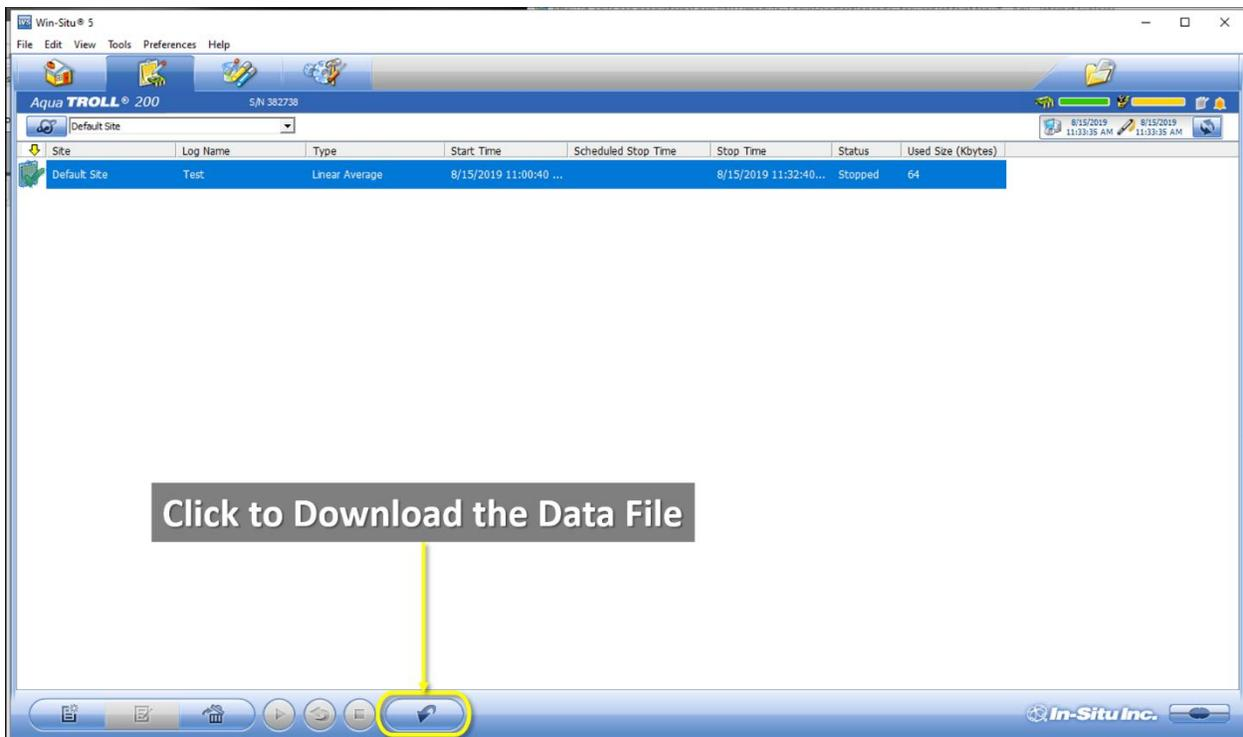

Figure 25. Select the Log file and then the Downward Pointed Arrow to Download the Log File Data
1. To download data from a TROLL to a NEON program laptop, select the log file and then select the downward pointed arrow from the bottom banner of the screen (**Figure 25**).